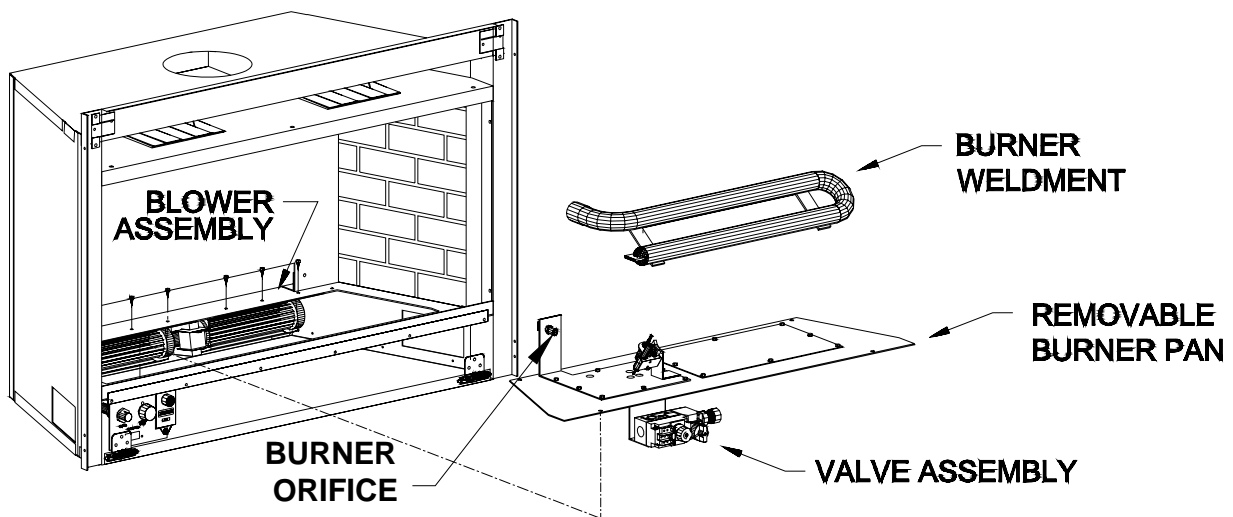

FIGURE 16
1. Refer to FIGURE 16. Disconnect power to fireplace and blowers.
9. Remove two (2) metal screws that secure blower assembly to unit floor. Blower(s) can then be removed through the rectangular access hole.